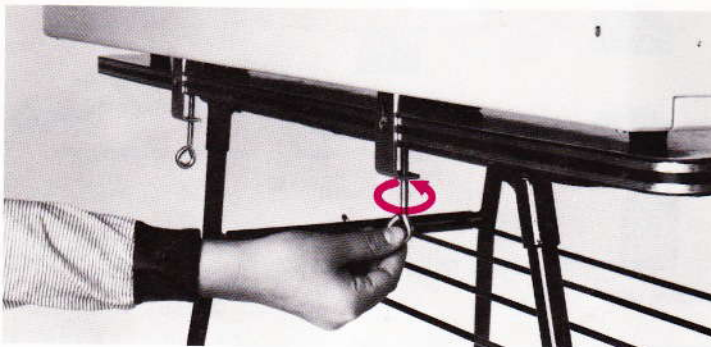

Fig. 3
- Unwind the 2 screws enough to fit the thickness of the table. Push the machine back on to the table as far as it will go and tighten the 2 screws very firmly (fig. 3).